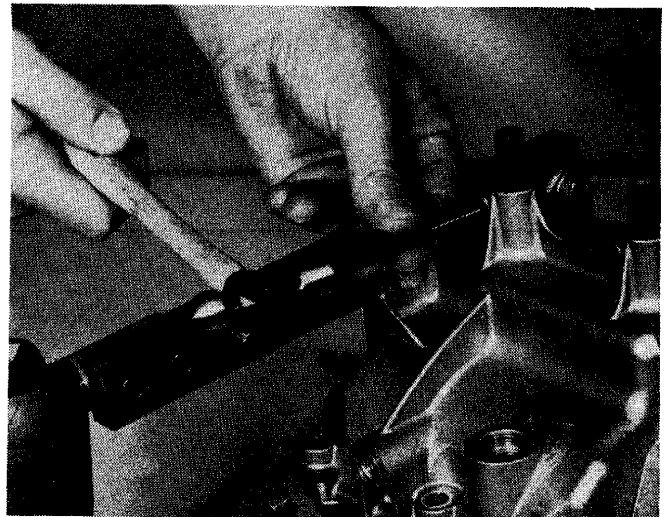

FIGURE 5
10. Using a straight punch, drive out the shifter lever retaining spirol pins. Figure 5.